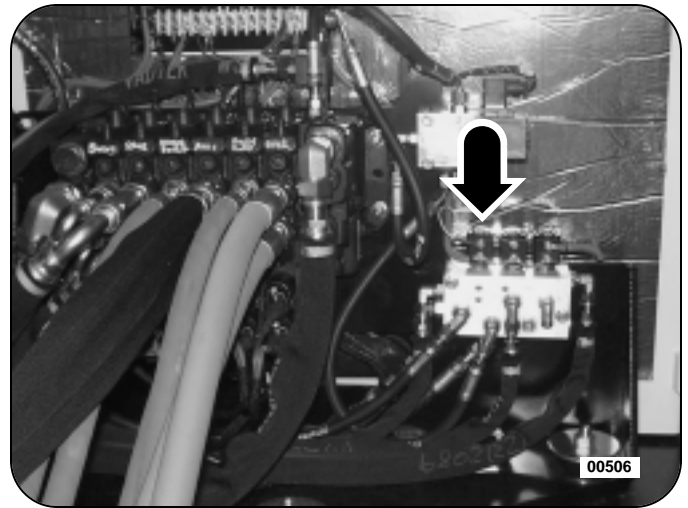

Figure 3: Pilot Pressure Manifold (Typical)
1. Open the swing-out valve cover to access the pilot pressure manifold. See Figure 3.